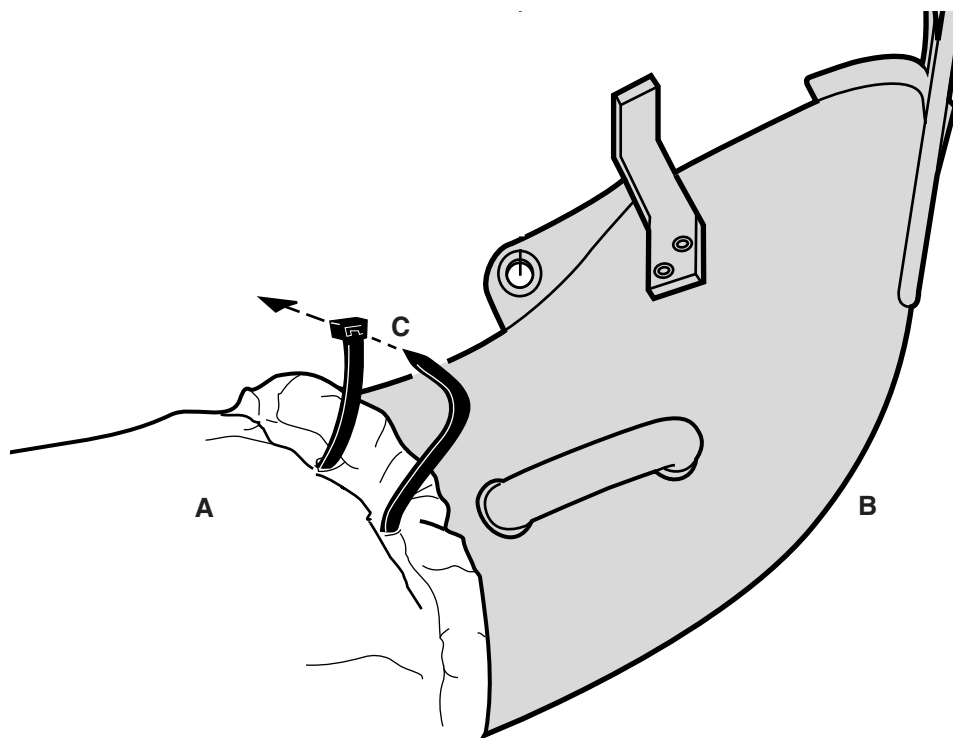

Fig. 4
1. Place grass bag (A, Fig. 4) over chute assembly (B).
2. Insert pointed end of plastic cable tie (C) into eyelet end of cable tie. Make sure cable is positioned so it ties bag around indented groove portion (over flange) of chute. Pull cable tight with pliers.